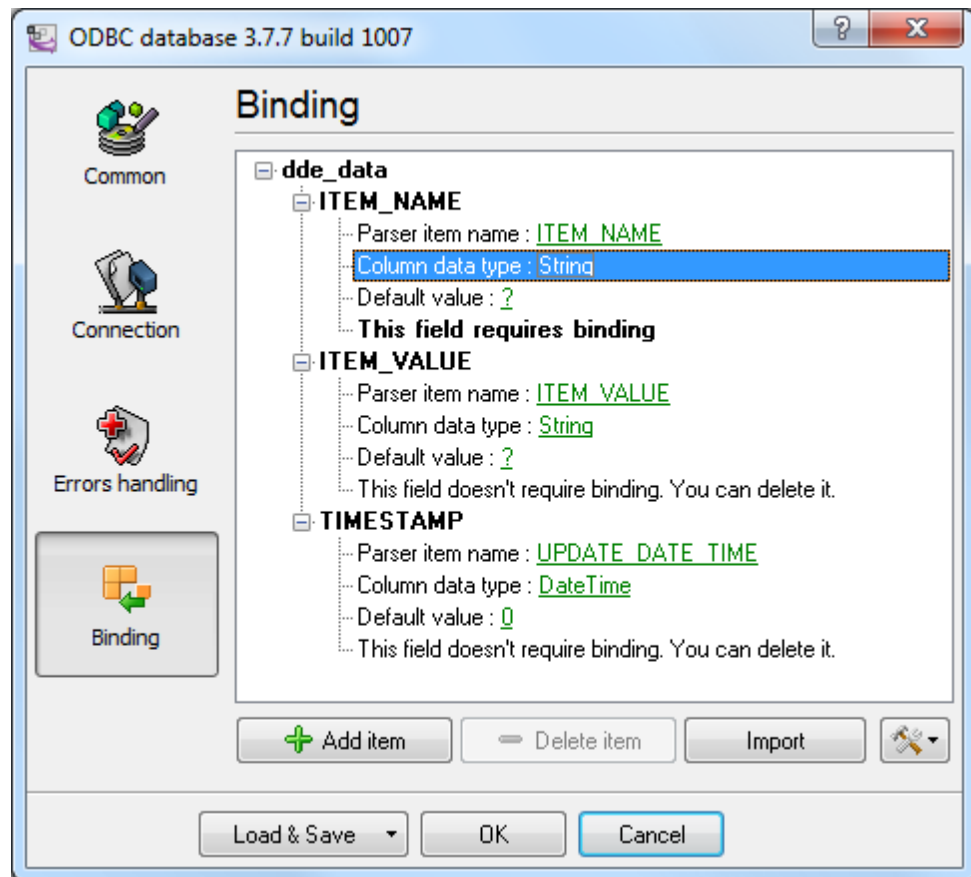

Fig. 8 Configuring the data export plug-in. Binding.
8. Binding (fig. 8) allows you to specify which data to which columns the program should add. You should specify the column name and "bind" the item to it from the main window of the program (the parser item). You should also specify the data type of the column.